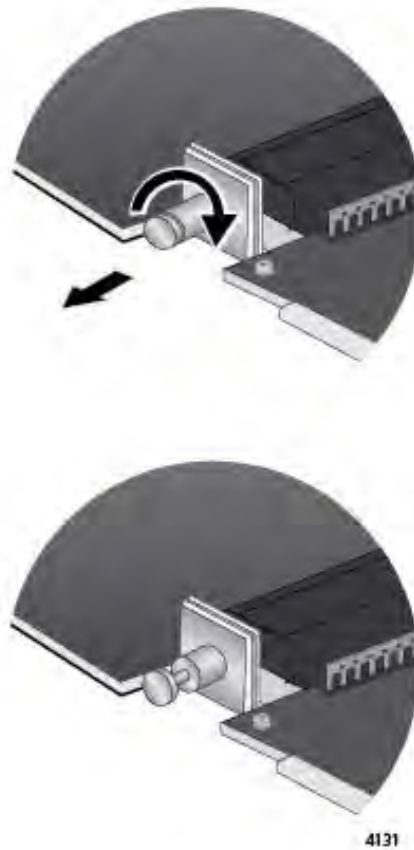

Figure 175. Retracting the Retaining Pin on the AT-SBx81XLEM Line Card
4. With your thumb and forefinger, pull out the retaining pin on the side of the line card and turn it clockwise one quarter turn until it remains in the retracted position. Refer to Figure 175.